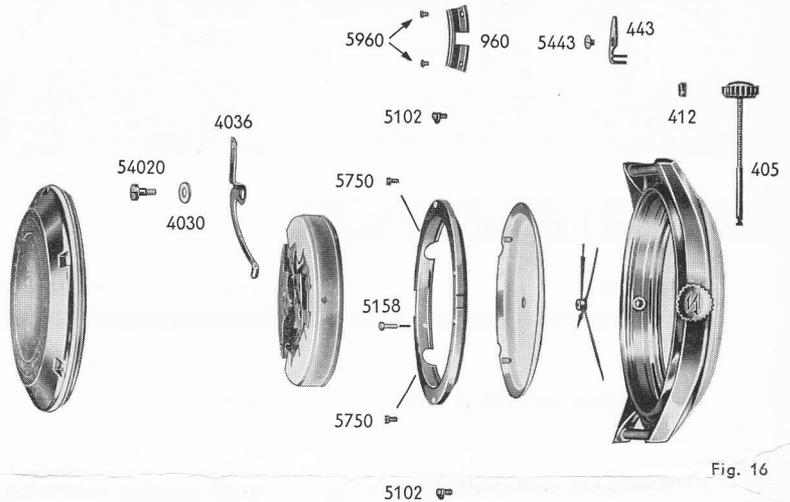

Fig. 16
4. 2. Case with accumulator, fig. 16